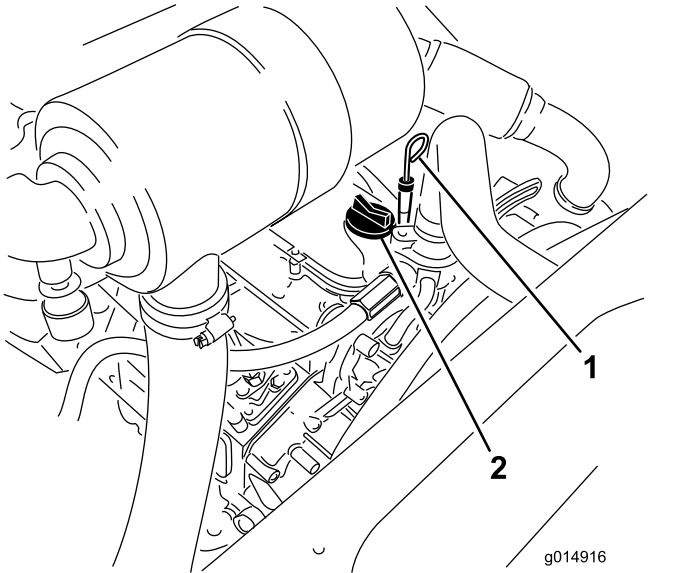

Figure 31
3. Remove the dipstick, wipe it clean, and install it (Figure 31).
5. If the oil level is below the FULL mark, remove the fill cap (Figure 31) and add oil until level reaches the FULL mark on dipstick.